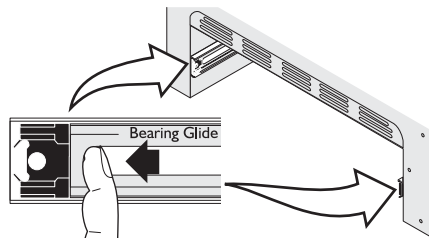

Figure 15
- a. **Pull the bearing glides to the front** of the chassis glide (See Figure 15).